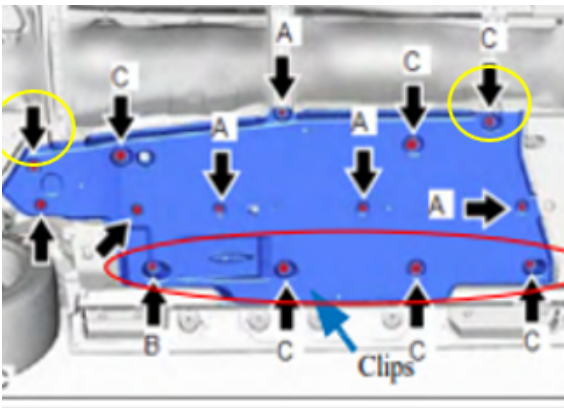

Figure 19
15. Loosen the outside clip to partially lower underbody panels. Fig. 19 & 20